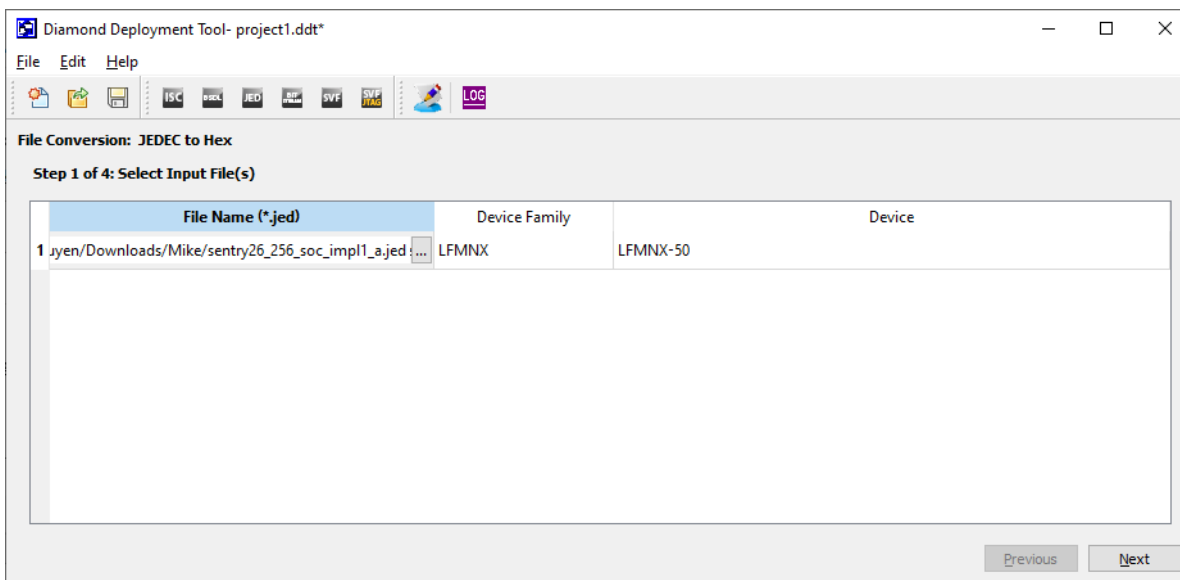

Figure 5.3. Select Input File(s)
- Select the input JEDEC file and click **Next** as shown in Figure 5.3.